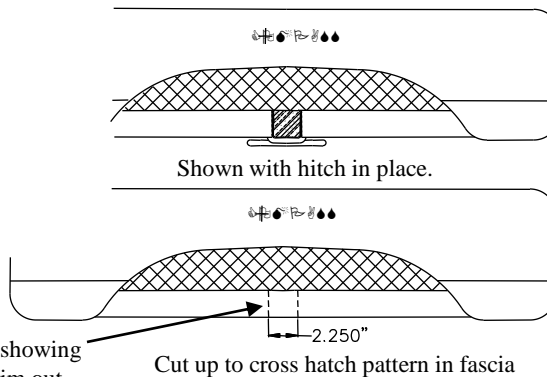
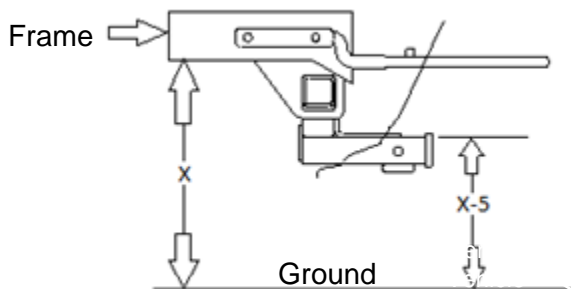

Figure 2
Figure 4
1. If vehicle has **optional tow hook** see Note 1. above. For **Compass Rallye** see Note 2 and Figure 2. **Check with vehicle owner.** For **2011 and later Jeep Patriot and Compass models.** Fascia trimming is required for hitch installation. Obtain vehicle owners approval before cutting. See Figure 3 and figure 4 for fascia trimming diagrams.
** 2011 model has 2" vertical fascia trim (measured from the bottom of the fascia lip). Mark fascia with non-permanent marker. Re-confirm fascia cut height by using figure 4 procedure and mark height from ground on fascia. Cut the lower of the two marks.
- On Compass Rallye Package only.** Use hitch receiver tube as a guide to cut a 2-1/4" wide by 2" high piece out of bumper fascia to allow clearance for ball mounts. See Figure 2.